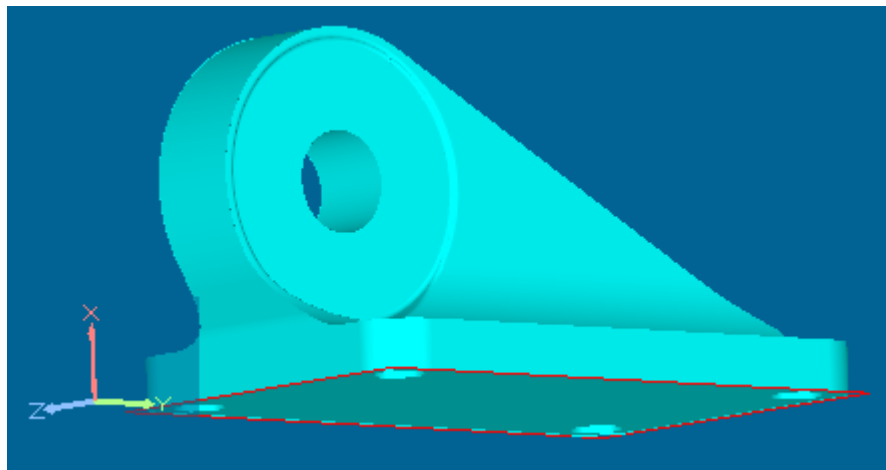

Figure 4. Geometry presentation, when Parallel (Axonometric, Orthogonal) projection type is selected
- **Parallel (Axonometric, Orthogonal)** - this projection maintains the correct relative dimensions of graphics objects with regard to the distance a given point is from the viewer and draws parallel lines in the data parallel on the screen (see Figure 4).